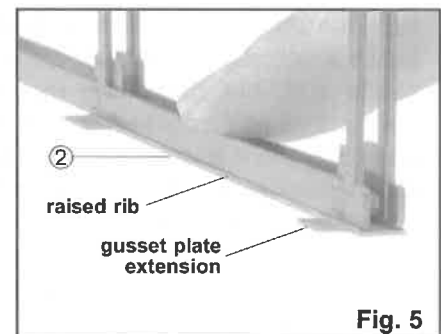

Fig. 5
Note that all bent lattice parts have a raised rib along each edge on one face. To assemble the outside bent lattice, lay part (2) flat on the work surface with the rib side up. Place the bent assembly on edge on top of part (2) so the ribs are on the outside of each bent half. See fig. 5. Cement in place, one edge at a time, while holding the bent half against the rib. Be sure the end of part (2) is flush with the end of the bent. Repeat with parts (3), (4), and (5). The eight gusset plate extensions on parts (2), (3), (4), and (5) should all extend in the same direction, or up with the bent assembly flat on the work surface. See fig. 5 & 8.